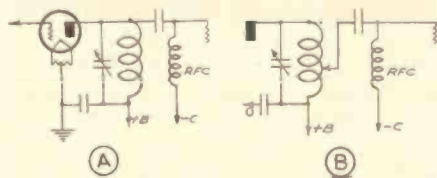

FIG. 1
feed and a consequent elimination of an RF choke in either the plate circuit of one stage or the grid circuit of the next. We cannot have both circuits series-feed. In the case of series-grid-feed, the coupling is shorted out and another is placed in series with the plate lead to the tank. The bias voltage can then be fed through the tank at the cold end (that end maintained at ground potential by the by-pass condenser), but we must feed the plate voltage directly to the plate by means of an RF choke. In the case of the familiar circuit shown in Fig. 1, the grid is shunt-fed, i.e., an RF choke to allow the DC voltage to get to the grid, and at the same time offering a high impedance to the RF voltage to the grid.
FIG. 1 (A)—Fundamental Capacitive Coupled Circuit. "C" is the capacity-coupling condenser. Aside from the impedance mismatch which results from use of this circuit, the RF choke (RFC) is practically always a source of loss. Thus the circuit possesses two evils, which are eliminated when link coupling is used.
FIG. 1 (B)—A capacitive coupled circuit with the plate coil tapped a few turns down from the plate end. That portion of the plate coil below the point where the tap is taken, acts also as part of an untuned grid in a TNT oscillator, which makes the driven stage oscillate at some parasitic frequency higher than that to which the circuits were meant to be tuned. The parasitic circuit includes the lower portion of the tank coil, the capacitive coupling condenser, the lead to the grid, the by-pass condenser in the negative B circuit and the ground.